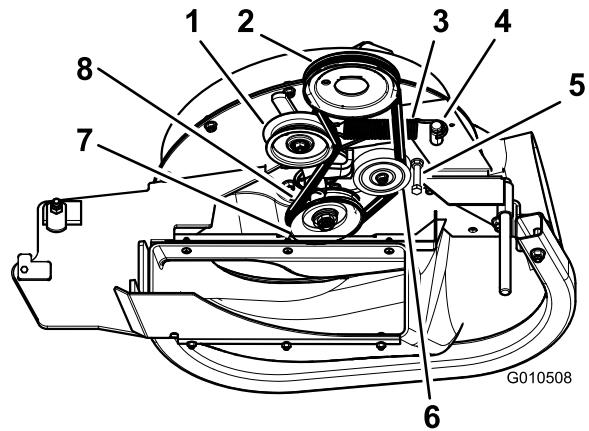

Figure 14
2. For 48- and 52-inch mowers, loosen the belt guide (Figure 14).
3. Install the belt around the blower pulley and fixed-idler pulley (Figure 14).